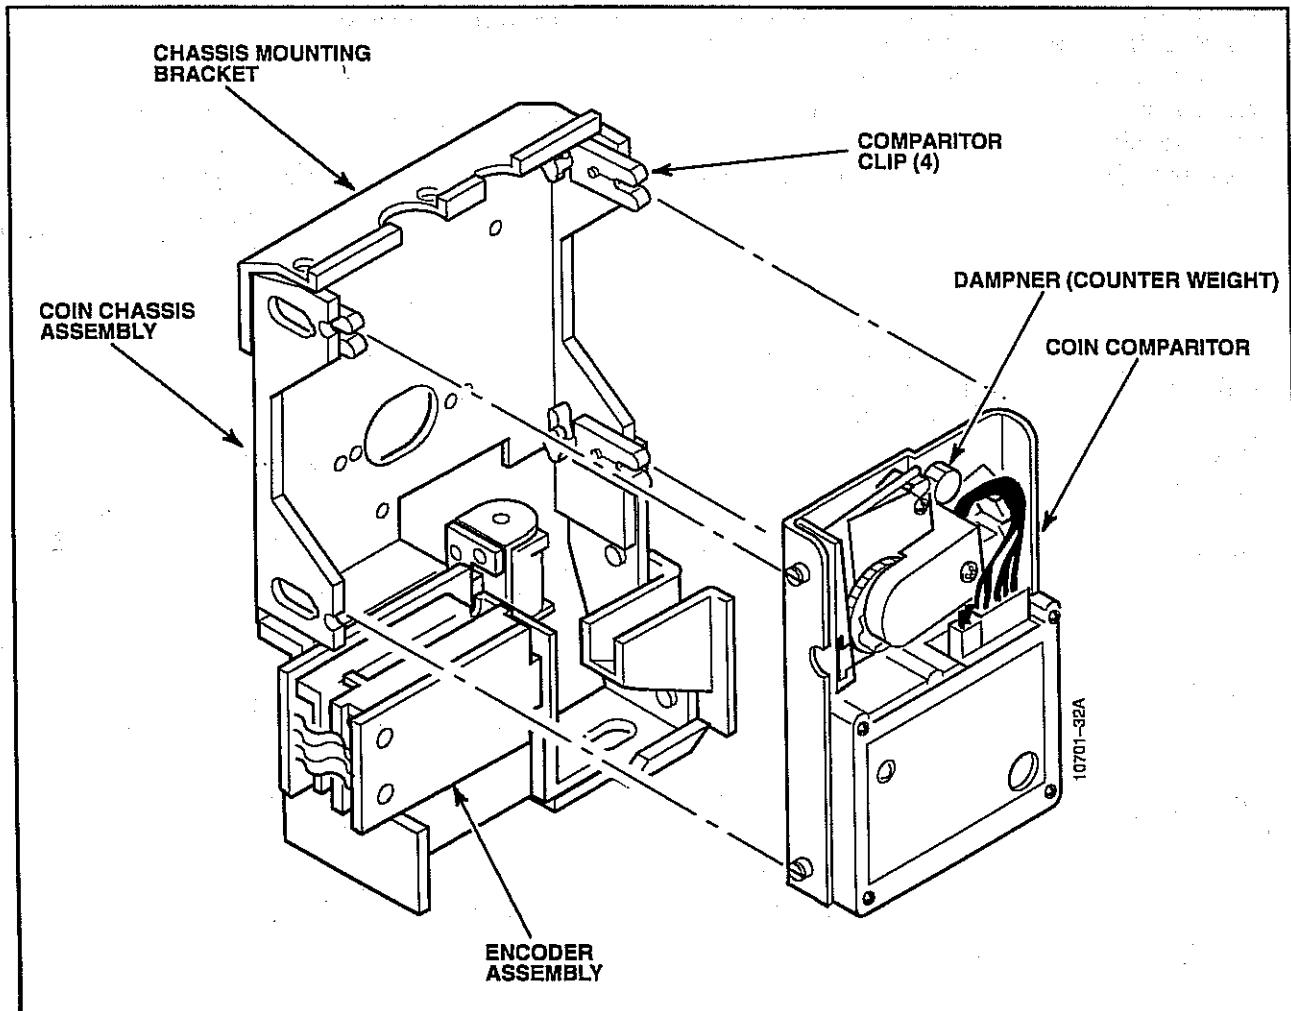

Figure 5-9. Coin-In Assembly with Electronic Comparitor.
The coin-in assembly discussed in this section utilizes a Coin Mech coin comparitor for checking coin validity and re-routing rejected coins to the coin tray (see Figure 5-9, Coin-In Assembly).
To remove the coin-in assembly from the machine for inspection, cleaning, adjustment or repair, see Figures 5-9 and 5-12 proceed as follows.
3. Hold the coin chassis in place and remove the two 6-32 Sems screws that secure the coin chassis to the coin chassis mounting plate (see Figure 5-9, Coin-In Assembly with Electronic Comparitor).
Refer to Figures 5-9 and 5-11, and proceed as follows.
The following procedures describe how to completely disassemble and assemble the coin-in assembly, for repair or to make a denomination change. See Figure 5-9, Coin-In Assembly with Electronic Comparitor, and proceed as follows.